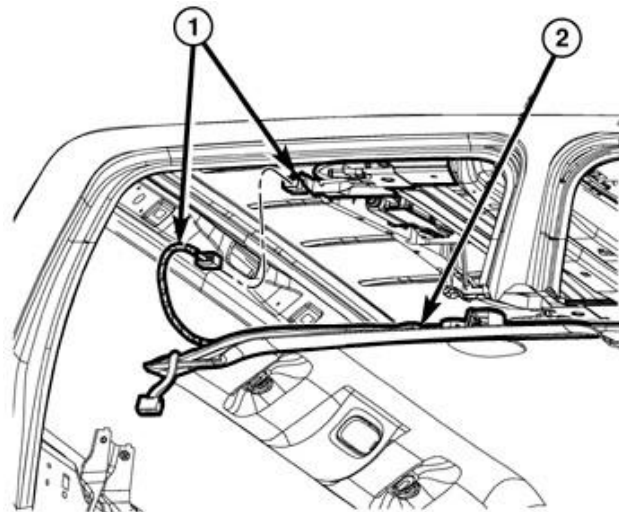

Figure 35 – Headliner Harness
24. Carefully tilt the front of the headliner (2) down to clear the rear view mirror then slide the headliner forward to clear the C-pillar trim while disconnecting any wiring harness electrical connectors (1) as necessary to allow enough wiring harness slack to lower the headliner (Figure 35).
25. Lower the headliner (2) allowing it to rest on the seat backs and instrument panel (Figure 35).
42. Raise the headliner into proper vehicle position and connect any electrical connectors previously disconnected from the headliner (Figure 35).